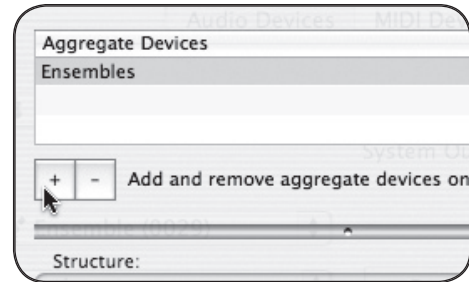

figure 20
b. In the Aggregate Devices window, check the **+** box to add an Aggregate Device. We suggest renaming the Aggregate Device to a more specific name, such as **Ensembles**. (figure 20)